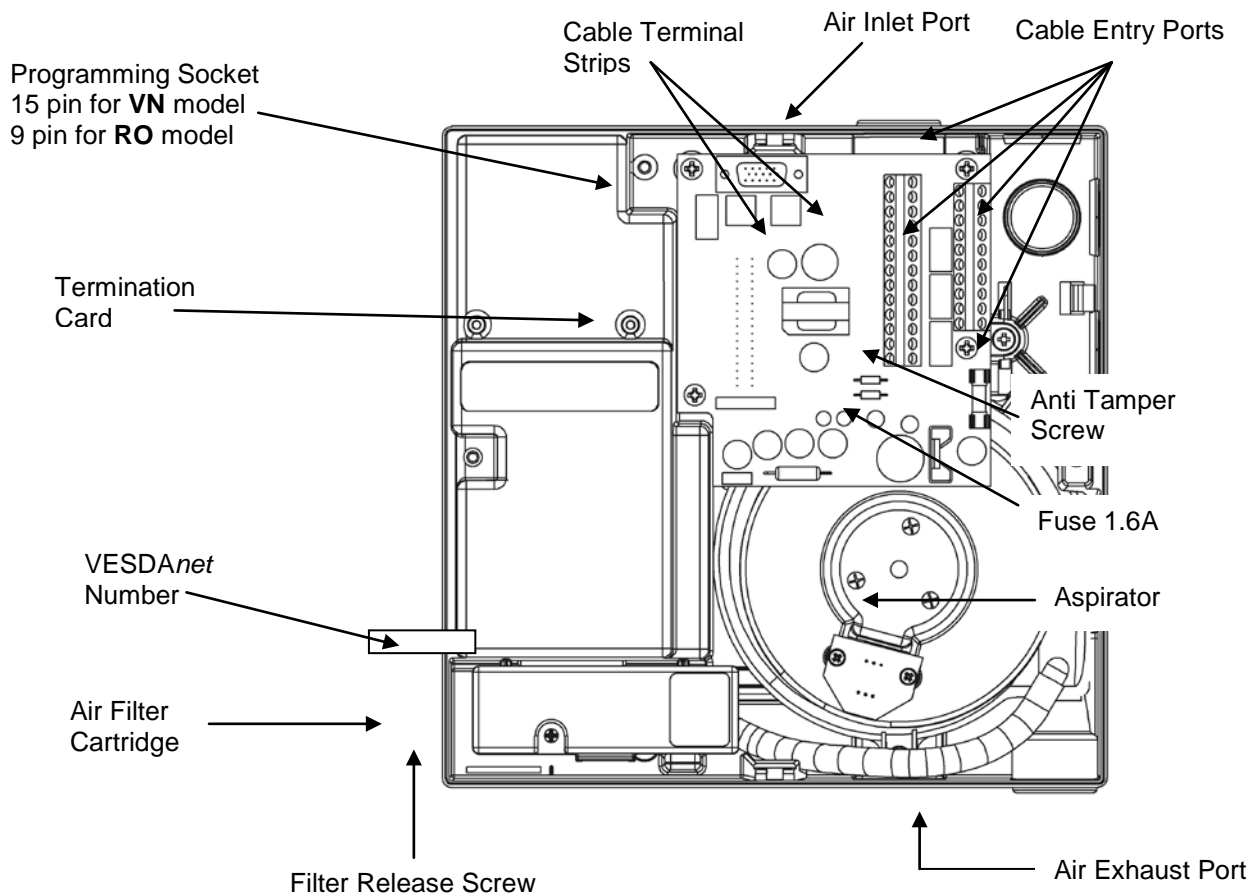

Figure 7 Location of Anti Tamper Screw and other Components inside the Enclosure
- (c) Slide the device downwards until it locks onto the tabs and screw in the anti tamper screw. Refer to Figure 7 for screw location.